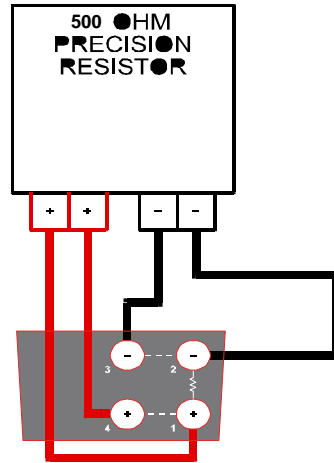

FIGURE 6
4. Connect a precision 500Ω standard resistor to the UUT inputs (4-Wire) and press *STORE RESET* and then 2, 3, 4 *WIRE* (See Figure 6).